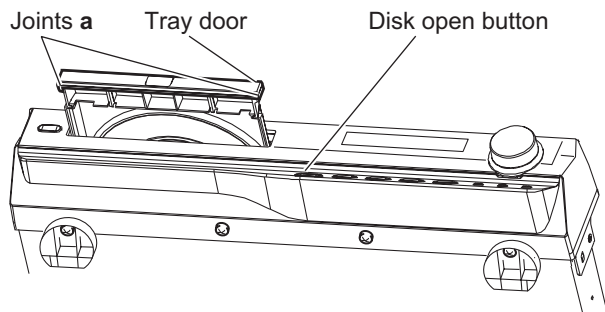

Fig.3
3.1.2 Removing the tray door (See Figs.3 to 6)
- (1) From the front side of the main body, push the disk open bottom and eject the disc tray. (See Fig.3)
- (2) Release the joints **a** in the upward direction and take out the tray door. (See Fig.3)